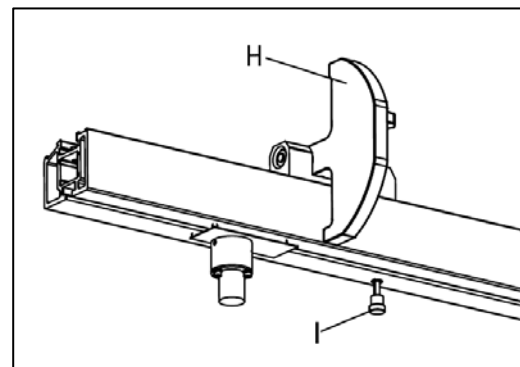

Fig.45
Set the stop plate (H) (**Fig.45**) at a certain location and cut a piece of workpiece.
a. measure the length of the workpiece, release the little knob (I) (**Fig.45**) under the fence, adjust the location of the scale to fit the length you measured, confirm the scale's location and lock the scale with knob (I)。